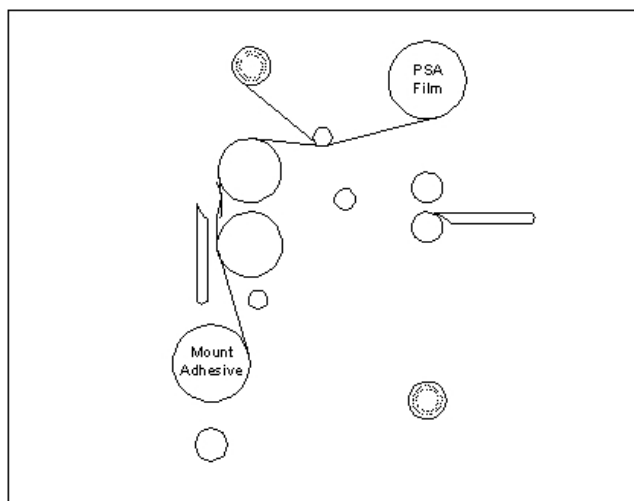

Fig 26
7. Pull the mount adhesive up towards the film draped over the upper heat roller (Figure 26).